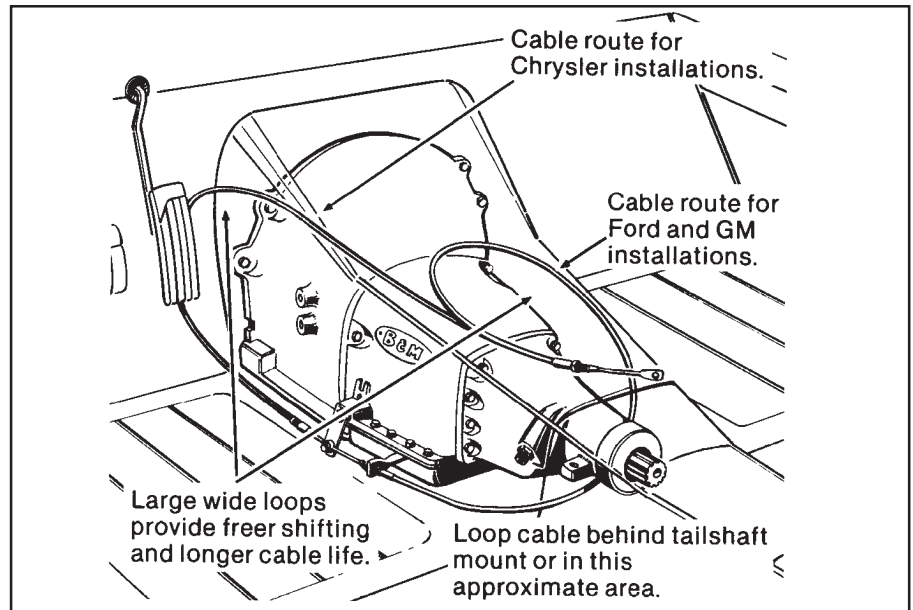

Figure 3
**STEP 7.** Install the shifter mechanism into the vehicle. Slide the shifter cable through the carpet and the hole in the floorboard. Bolt the shifter down using four 1/4" hex bolts and nuts. If required use 1/4" washers as shims between the shifter mechanism and the floor to level the shifter. Do not bend the shifter mounting tabs. **ROUTE THE CABLE AS SHOWN IN FIGURE 3, AVOID SHARP BENDS WHICH WILL KINK AND DAMAGE THE CABLE.** Use cable clamps or tie wraps to secure the cable housing to the chassis to avoid contact with hot engine or exhaust system. Seal the cable hole shut to avoid the entry of exhaust fumes or water. For General Motors vehicles go to **Step 8**, for Ford vehicles go to **Step 13**, for Chrysler vehicles go to **Step 19**, for aluminum Powerglide equipped vehicles go to **Step 25**.
**STEP 10.** Route the shifter cable according to **Figure 3**. Avoid kinks and sharp bends and route the cable away from hot engine or exhaust parts.
**STEP 16.** Route the shifter cable according to Figure 3. Avoid kinks and sharp bends and route the cable away from hot engine or exhaust parts.
**STEP 21.** Route the shifter cable according to Figure 3. Avoid kinks and sharp bends and route the cable away from hot engine or exhaust parts.
**STEP 34.** Route the shifter cable according to **Figure 3**. Avoid kinks and sharp bends and